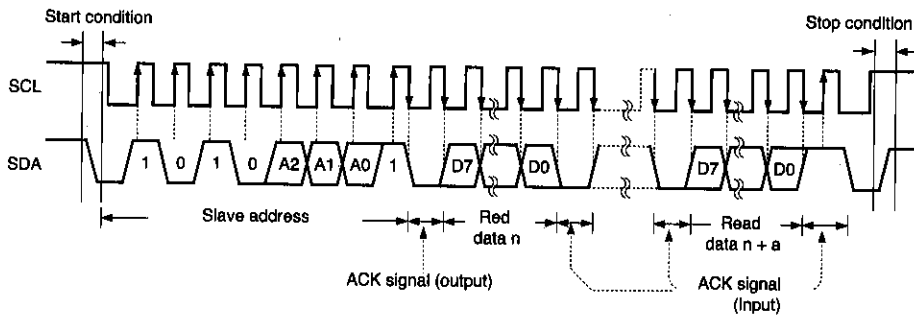

Fig.16 Sequential read cycle (BR24C01A/AF)
- When an ACK signal LOW is detected after D0 and a stop condition is not sent from the master (μ -COM), the next word address data can be read. [All words all read enabled] (See Figures 16 to 18 for the sequential read cycles.)
(See Figures 16 to 18 for the sequential read cycles.)